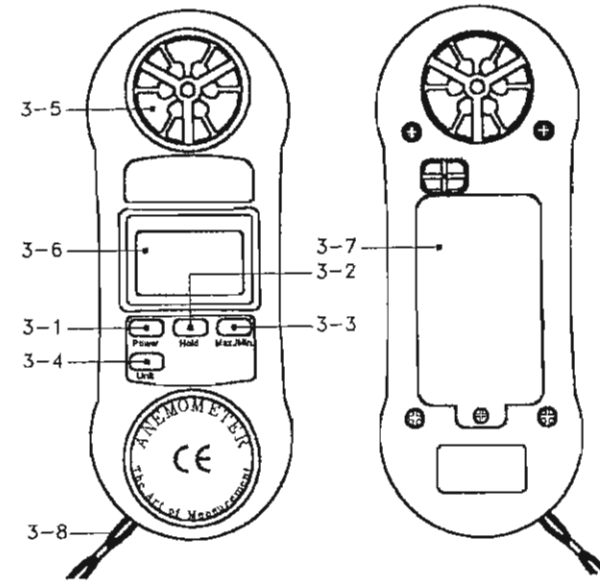

Fig. 1
- 1) Power on the instrument by pressing the " Power Button " (3-1, Fig. 1).
- 2) Press the " Unit Button " (3-4, Fig. 1) to select unit that you want and then face the " Air Flow Sensor " (3-5, Fig. 1) to the source of wind.
Pressing the "Hold Button" (3-1. fig. 1) will freeze the current value with a "HOLD" symbol on the display. Press again to release the hold function.
- 1) The Data Record function records & displays the maximum and minimum reading values. Start the Data Record function by pressing the " Max./Min. Button " (3-3, Fig. 1) once. There will be a " REC " symbol on the display.
- (a) Press the " Max./Min. Button " (3-3, Fig. 1) once and the " Max " symbol along with the maximum value will appear on the display.
- (d) Clear the Max./Min. value recorded by pressing the " Hold Button " (3-2, Fig. 1) once. Previous recorded Max./Min. value will be given up and then revert to the REC. function keep on recording.
- 2) Open the " Battery Compartment / Cover " (3-7 Fig. 1) and remove the battery.